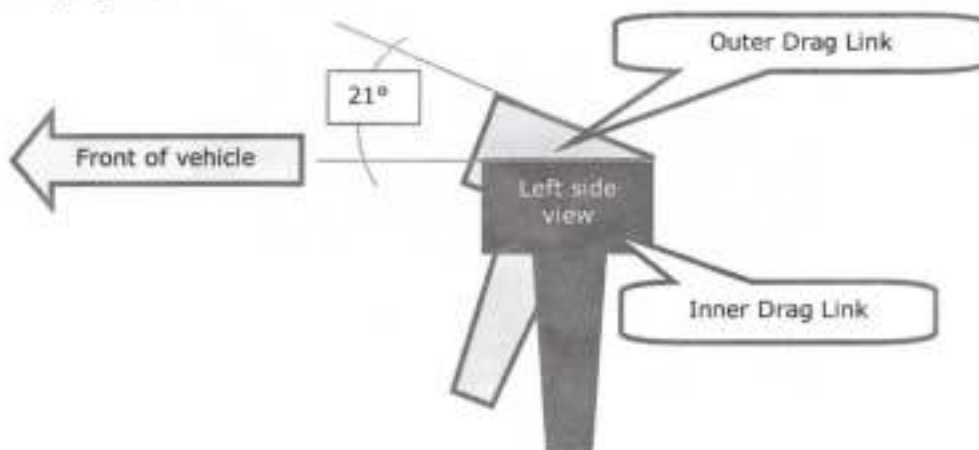

Figure 8 - Inner to Outer Drag Link Alignment for Cross Car Linkage
10. Align Drag Link Ends - Follow steps 1-9 with the inner and outer Drag Link Ends. The angle between the Inner and Outer Drag Link Ends should be $21 (\pm 3)$ degrees. (Fig. 8)